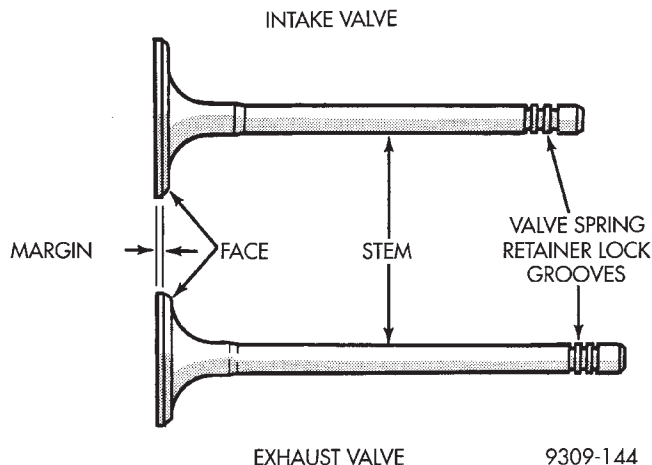

Fig. 91 Intake and Exhaust Valves
(1) Clean valves thoroughly and replace burned, warped and cracked valves.
(2) Measure valve stems for wear (Fig. 91). Refer to Valve Specification.
NOTE: Valve stems are chrome plated and should not be polished (Fig. 91).